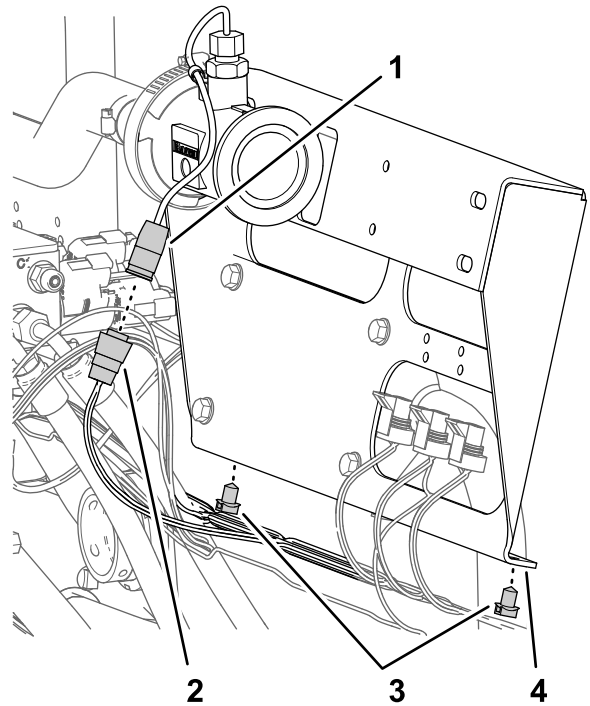

Figure 73
- Disconnect the 3-socket connector of the machine wire harness labeled FLOW METER from the 3-pin connector of the flow meter (Figure 73).
- Remove the 2 push-in fasteners of the machine wire harness from the bottom flange of the section-valve bracket (Figure 73).